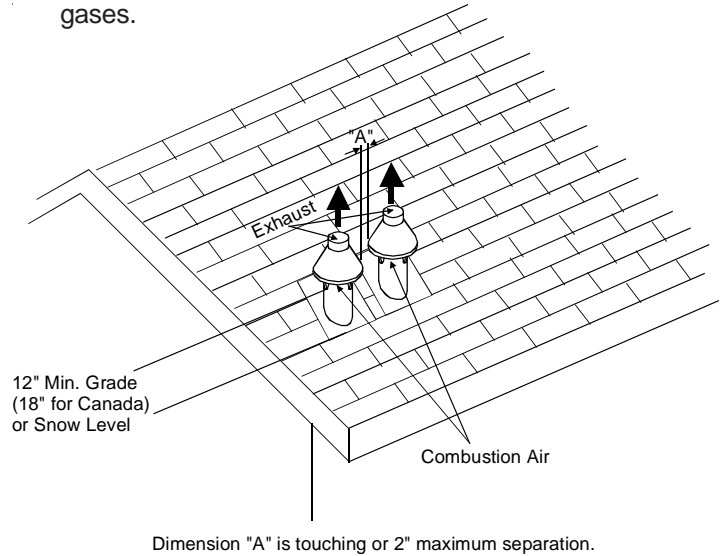
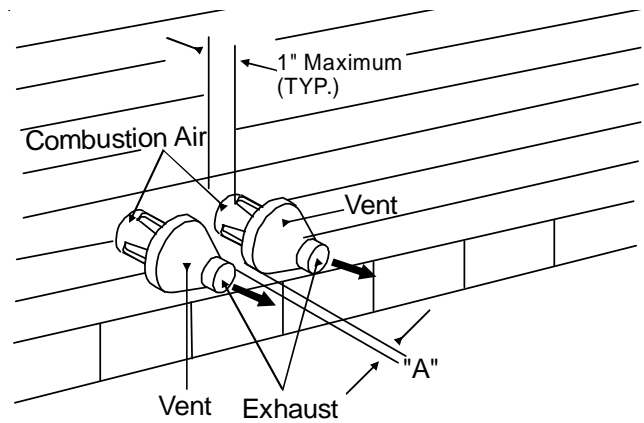

FIGURE 8
FIGURE 9
Two (2) vent terminations may be installed as shown in Figure 8 and Figure 9, but the next vent termination must be at least 36" away from first 2 terminations. It is important that vent terminations be made as shown to avoid recirculation of flue gases.